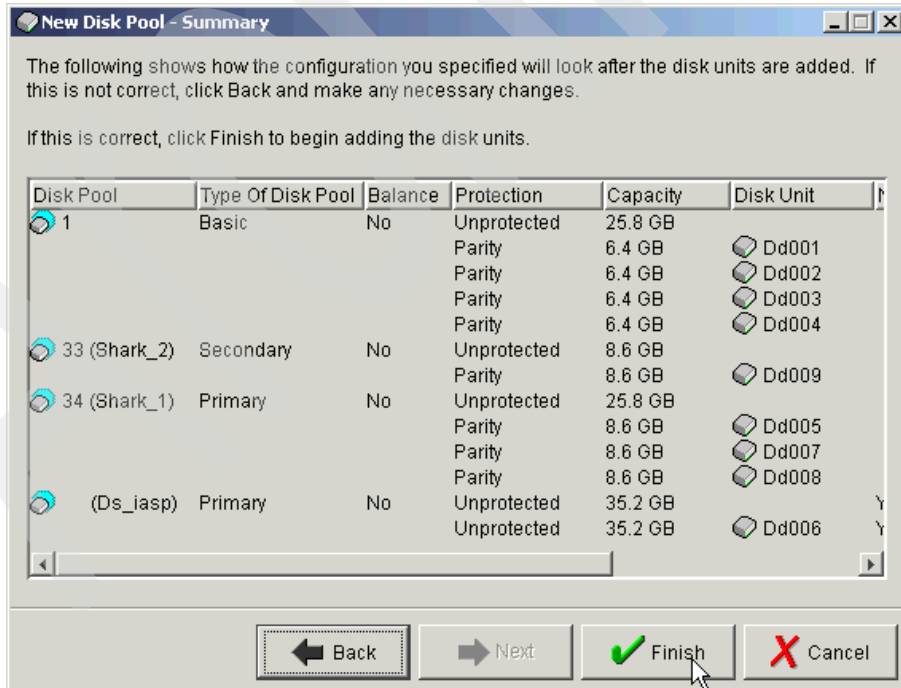

Figure 17-15 New Disk Pool - Summary
12. A summary of the Disk Pool configuration, similar to Figure 17-15, appears. Click **Finish** to add the disks to the Disk Pool.